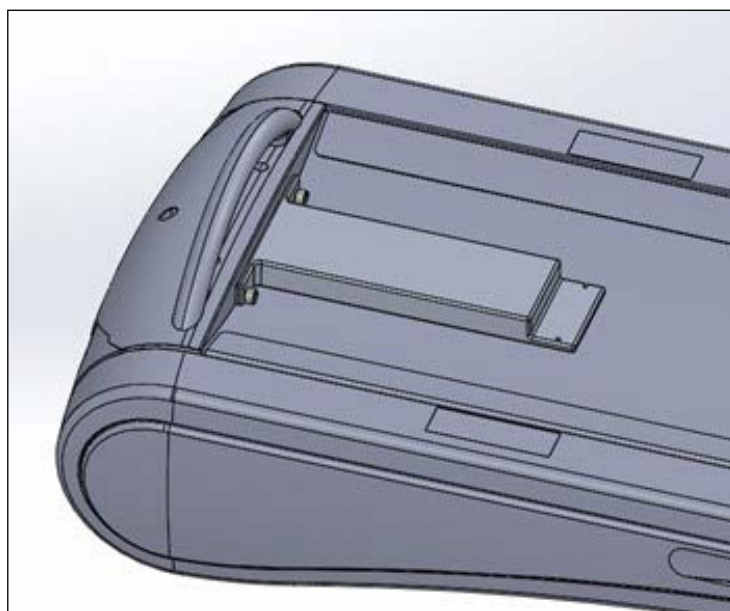

Fig. 35
1. The Foot End Extension secures onto the Canon CT Cradle Assembly using (2) M12 bolts (Fig 35).